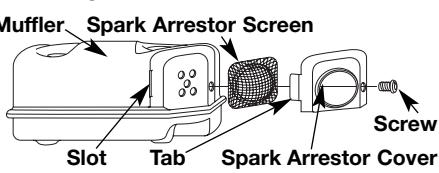

Fig. 39
2. With a flat blade screwdriver or Torx T-20 bit, remove the screw attaching the spark arrestor cover to the muffler (Fig. 39).